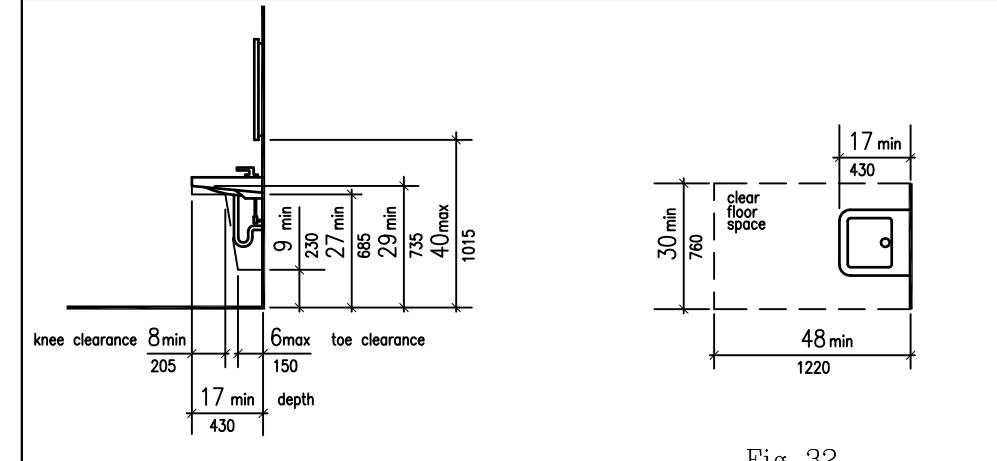

Fig 32
c. A CLEAR FLOOR SPACE OF 30"x48" SHALL BE PROVIDED IN FRONT OF A LAVATORY OR SINK TO ALLOW A FORWARD APPROACH AND TO COMPLY WITH FIG. 32.